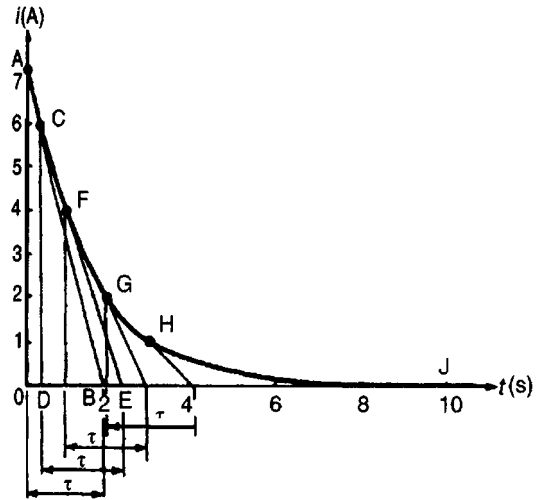

Figure 18.14
- (ii) With reference to Fig. 18.14, the initial slope is obtained by making OB equal to 1 time constant, (i.e. 2 s), and joining AB